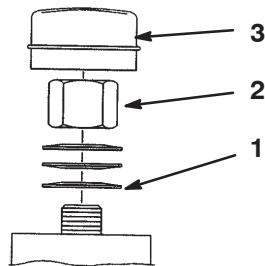

Figure 49
3. Remove the dust cap from the caster and tighten the locknut (Fig. 49).
4. Tighten the locknut until the spring washers are flat, then back off 1/4 turn to properly set the pre-load on the bearings (Fig. 49).
Important Ensure that the spring washers are installed correctly as shown in Figure 49.